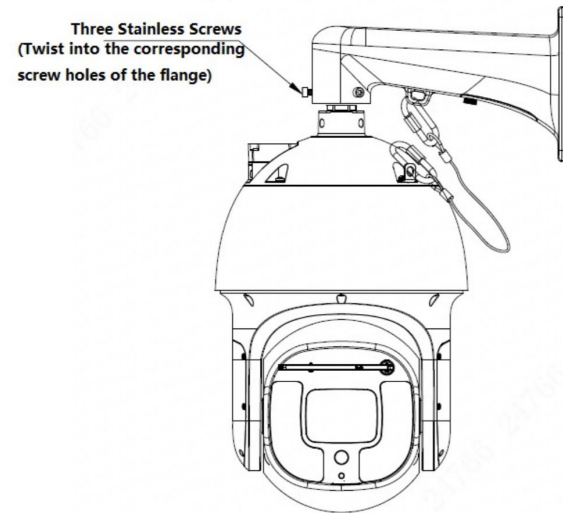

Figure 2-6
Step 3 Align the flange edge with that of the bracket; push the speed dome into the bracket, twist three stainless screws into the corresponding screw holes of the flange, and then use inner hex tool to fix three stainless screws, as shown in Figure 2-6.